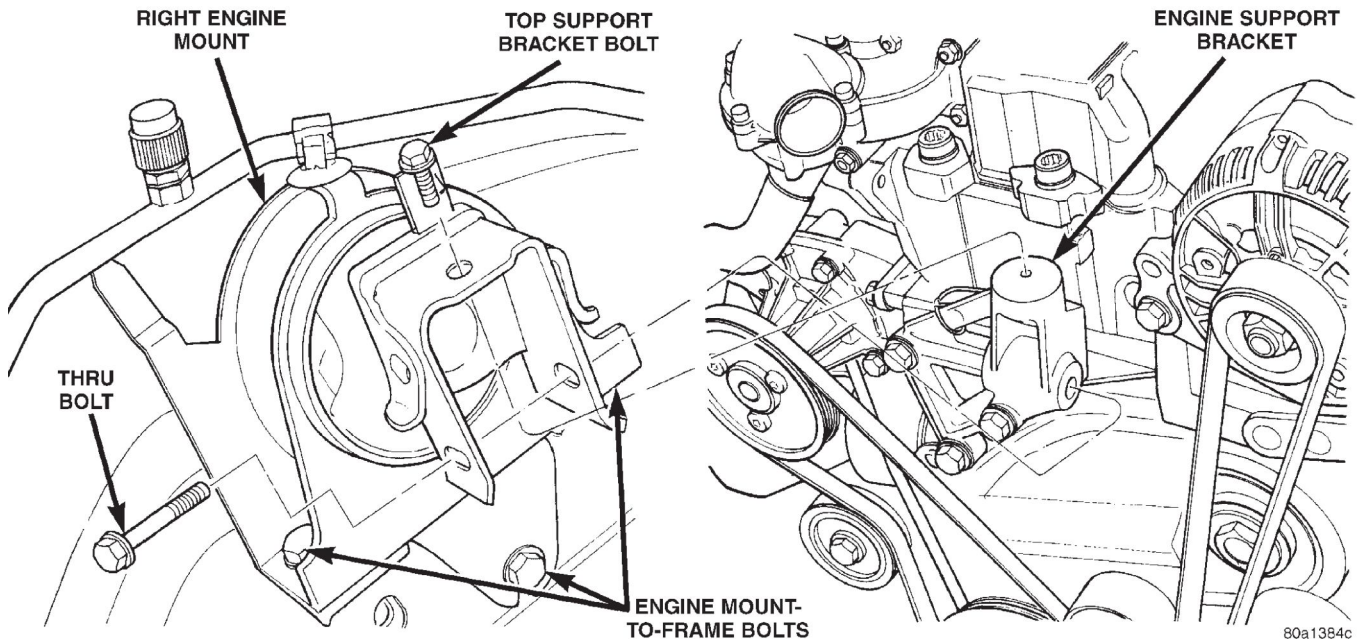

Fig. 16 Right Engine Mount—VM Diesel
- (1) Remove the right engine mount top support bracket bolt (Fig. 16).
- (2) Remove the load on the engine motor mounts by carefully supporting the engine and transmission assembly with a floor jack.
- (3) Remove the engine mount to frame bolts.
- (4) Remove the thru bolt from the mount assembly. Remove insulator
- (5) If replacing or removing right engine mount bracket the torque on the mounting bolts is 40 N·m (30 ft. lbs.)
- (6) Reverse removal procedure for installation.